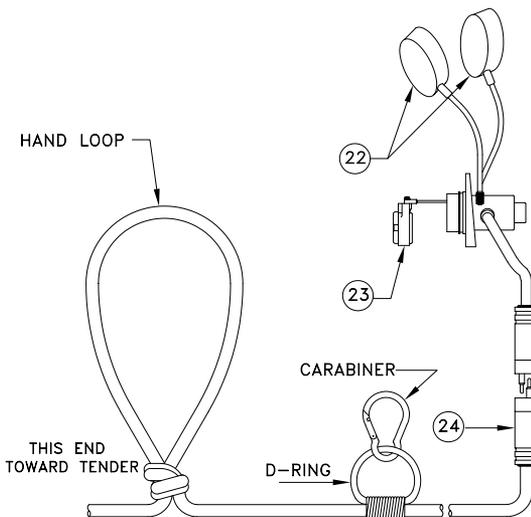

Figure 4.1
21.	EMA-2 ear/mic. assembly for AGA See Figure 4.1, Page 8
- 4.2.4. Strain-relieve the Com-Rope® in two places on the diver's end. The first point should have some sort of "D-ring" heavily taped or tied about 4 feet from the Hi-Use® connector. This "D-ring" will be clipped onto the diver's harness or buoyancy compensator via a carabiner or some good quality, quick disconnect. This connection will help prevent the Com-Rope® from pulling on the diver's full-face mask (see Figure 4.1).
- 4.2.5 The diver should tie the Com-Rope[®], making a hand loop about 6 inches in diameter about 10 feet from the Hi-Use[®] connector (Figure 4.1). The diver will now be secured to his harness or buoyancy compensator and have a hand-hold he should hold during the dive. The diver should have control of the Com-Rope[®] throughout the dive. He should feel what is going on, giving topside directions when slack needs to be taken up or when more rope needs to be paid out. If the diver lets go of the hand-hold, the carabiner–D-ring combination will absorb the tension. In the event the diver must break lose of the Com-Rope[®] totally (i.e., in an emergency), the diver should let go of the Com-Rope[®] hand-hold and unsnap the device holding the D-ring. The diver then should let topside know what is going on before he detaches the Hi-Use[®] connectors. The diver then should proceed directly to the surface and reestablish communications (see notes on page 10).